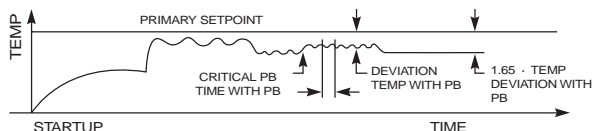
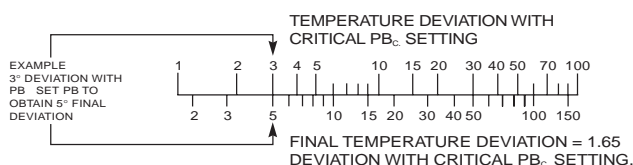

Figure 3. Calculating Final Temperature Deviation
Figure 4. Nomogram I
The desired final temperature deviation can be calculated by multiplying the initial temperature deviation achieved with the CRITICAL PB setting by 1.65 (see Figure 3) or by use of the convenient Nomogram I (see Figure 4). Try several trial-and-error settings of the PB control until the desired final temperature deviation is achieved.
2. Increase the PB setting until the temperature deviation (droop) increases 65%. Nomogram I (see Figure 4) provides a convenient method of calculating the desired final temperature deviation.